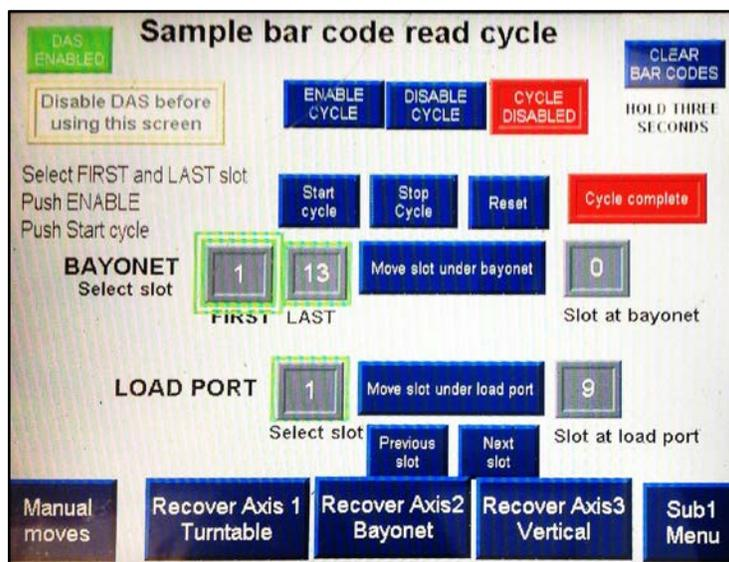

Figure 3. PLC Table Load Cycle screen
- f. On the PLC (Figure 3), go to the "Table Load Cycle" screen and disable das by pressing the green button in the upper left corner so that it turns red and reads "Das Disabled".